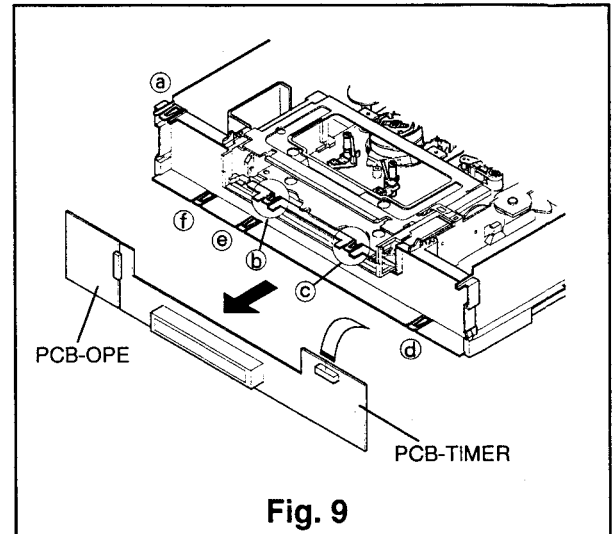

Fig. 9
- ① Remove the Top Cover referring to Para. 1 of the DISASSEMBLY.
- ② Remove the Front Panel, refer to Para. 2 of the DISASSEMBLY.
- ③ Remove six catches (a~f) shown in Fig. 9 to remove the PCB-TIMER/OPE.